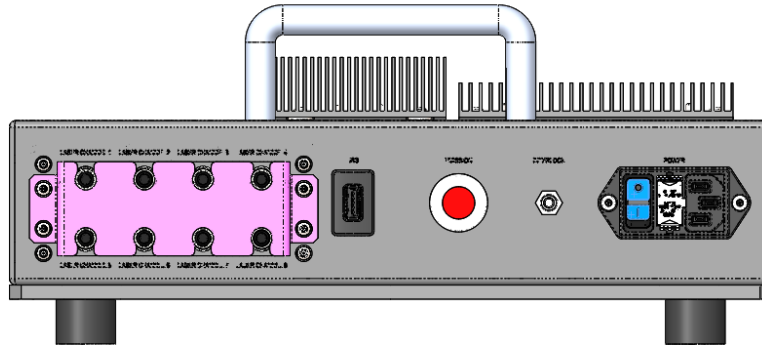

Figure 5-2 Laser Module Power Switch (highlighted in blue)
9. To turn on the Laser Module, flip the power switch, shown below in Figure 5-2. The switch will turn red if the power is on. Do not rapidly power cycle the unit or switch the interlock at frequencies higher than 1 cycle per second. Wait 5 minutes before conducting any tests to allow the laser to warm up.